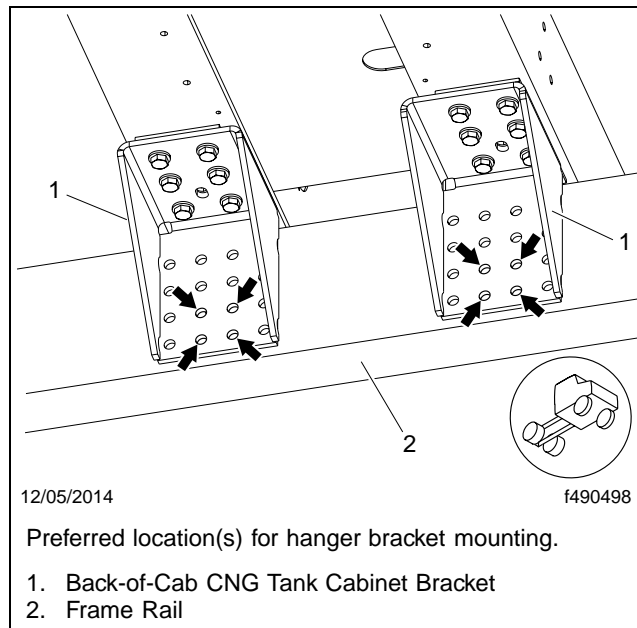

Fig. 4, Determining the Hanger Locations
6. Determine the best location for the hanger bracket(s). Where possible, use the existing holes in the back-of-cab tank cabinet mounting bracket(s). See **Fig. 4**.